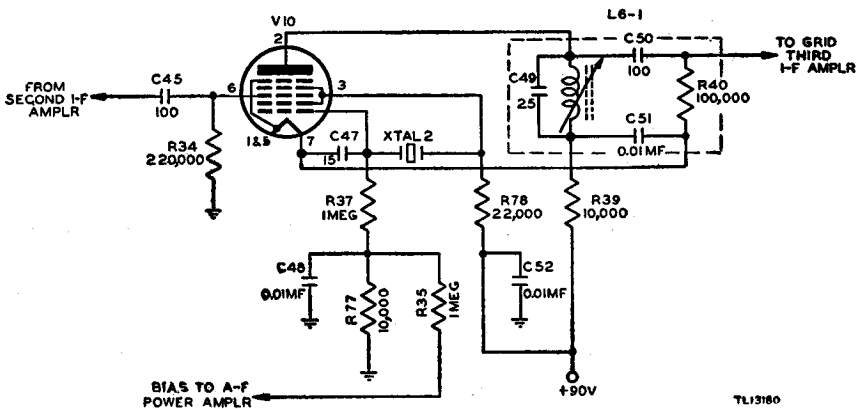

Figure 48. Radio Receiver and Transmitter BC-1000-A, receiver second mixer and crystal oscillator.
a. The second mixer and crystal-oscillator Tube JAN-1R5, V10, as shown in figure 48, mixes the 4.3-mc first i-f signal with the crystal-controlled frequency to produce a new intermediate-frequency of 2.515 mc. The oscillator section of the converter, on a frequency of 6.815 mc, is a Pierce oscillator with the anode grid of the converter serving as the plate of a triode oscillator. The 4.3-mc signal is applied to the third grid of the converter. The oscillator signal is mixed with the first i-f signal in the electron stream of the tube. The *difference* frequency is brought out in the parallel resonant plate circuit tuned to 2.515 mc. The interstage transformer L6-1 contains tuning capacitor C49, tunable iron